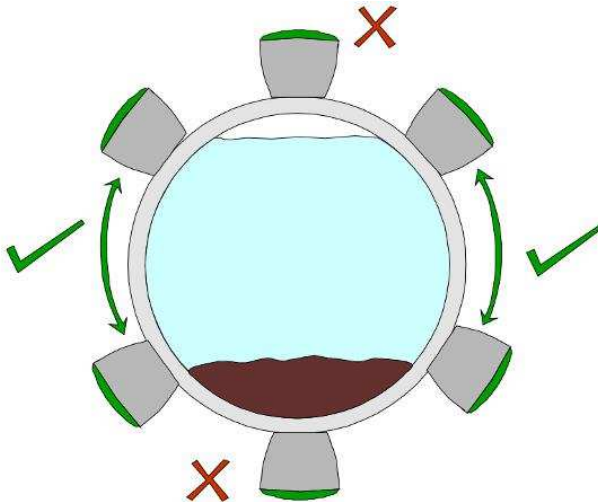

Figure 2: Recommended positioning on horizontal pipes
- On horizontal pipes, it is preferable to mount Flow Pulse between 1 o'clock and 5 o'clock position on the pipe to avoid air pocket on top or sedimentation on the bottom, as illustrated in Figure 2: